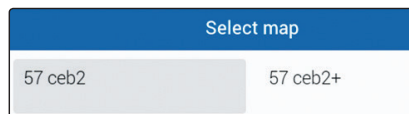

Fig. 247
- Select a map from the list (Fig. 247).